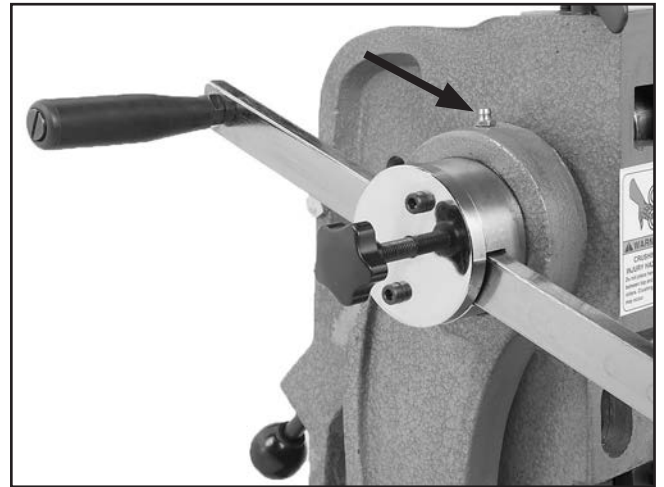

Figure 45. Hub grease location.
2. Using a grease gun filled with multi-purpose grease, wipe both grease fittings off and apply two pumps of grease to each fitting on each hub (Figure 45). Turn the work lever to disperse the grease.